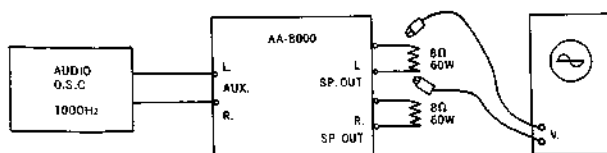

Fig. 1
- Connect an 8 Ω 60 W resistor to the left and right channel speaker terminals, and connect the oscilloscope across this resistor (see Fig. 1).
- Connect instruments as shown in Fig. 1 and use a VTVM in place of the oscilloscope.